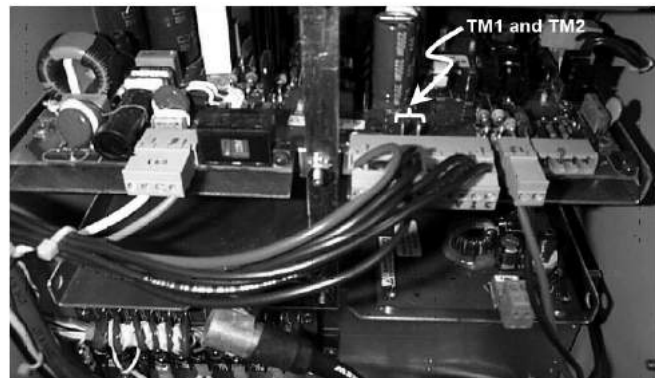

Figure 35. Location of terminals TM1 and TM2 on the power supply circuit board
5. Remove any control input and status output wiring from TB1, TB3, and TB4 (Figure 35).
6. Disconnect any serial communications ports and IRIG-B timing connections (Figure 35).